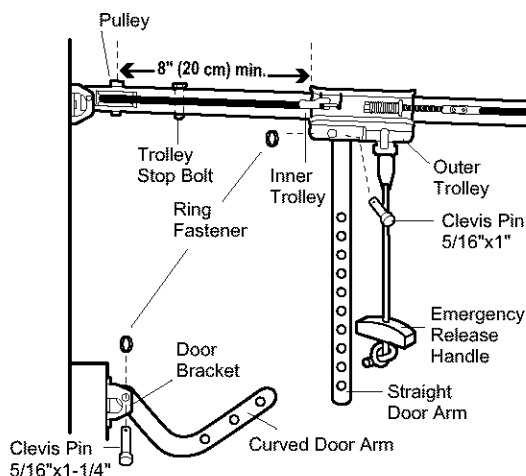

Figure 1
- Make sure garage door is fully closed. Pull the emergency release handle to disconnect the outer trolley from the inner trolley. Slide the outer trolley back (away from the pulley) for 8" (20 cm) minimum as shown in Figures 1, 2 and 3.
- **Figure 1:**